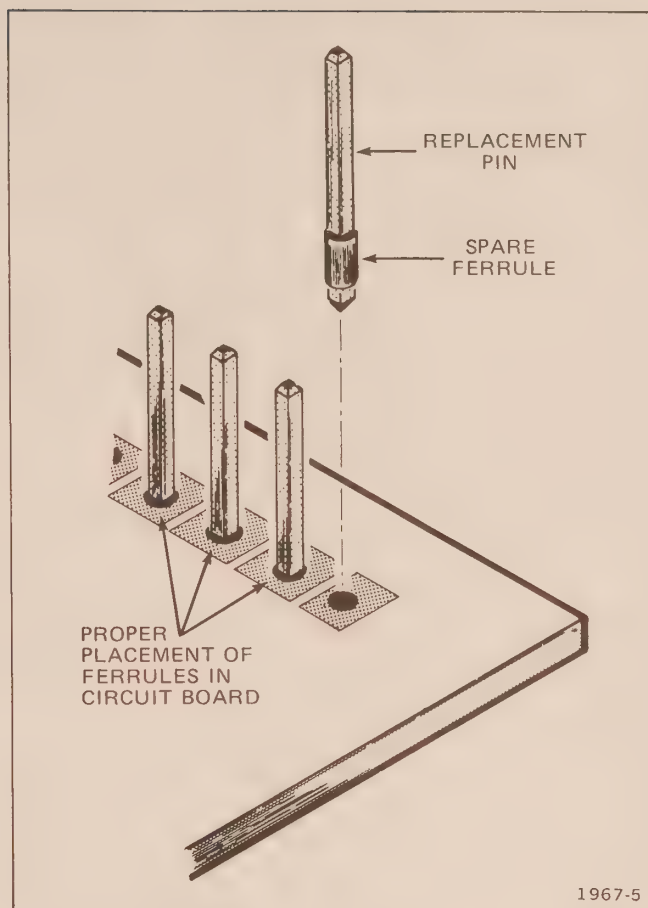

Fig. 4-4. Circuit-board pin and ferrule assembly.
2. When the solder begins to melt, gently pull the damaged pin from the board. Leave the ferrule in the hole, if possible. Refer to Fig. 4-4.